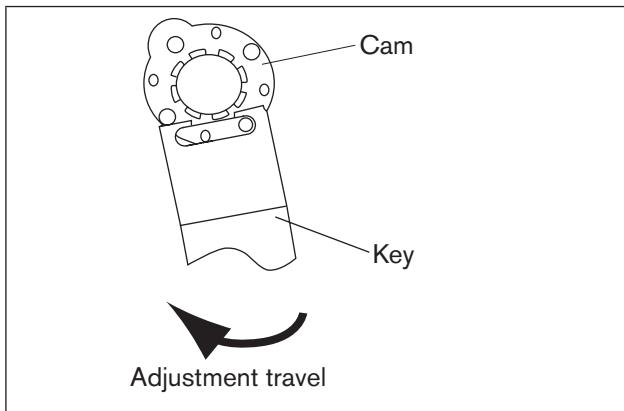
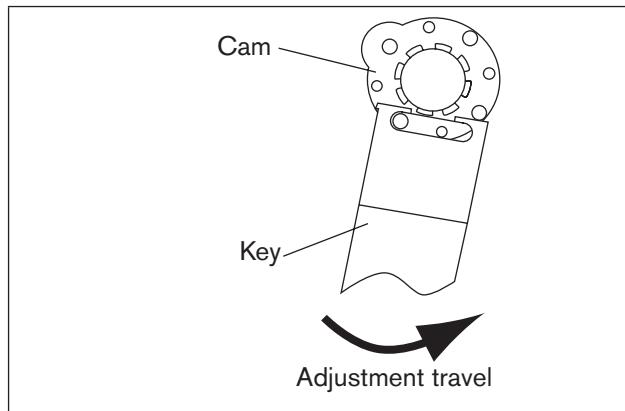

Figure 12: Adjusting limit switch clockwise
Figure 13: Adjusting limit switch anti-clockwise
- Adjust the two upper cams with a suitable key (see "Figure 12" and "Figure 13").